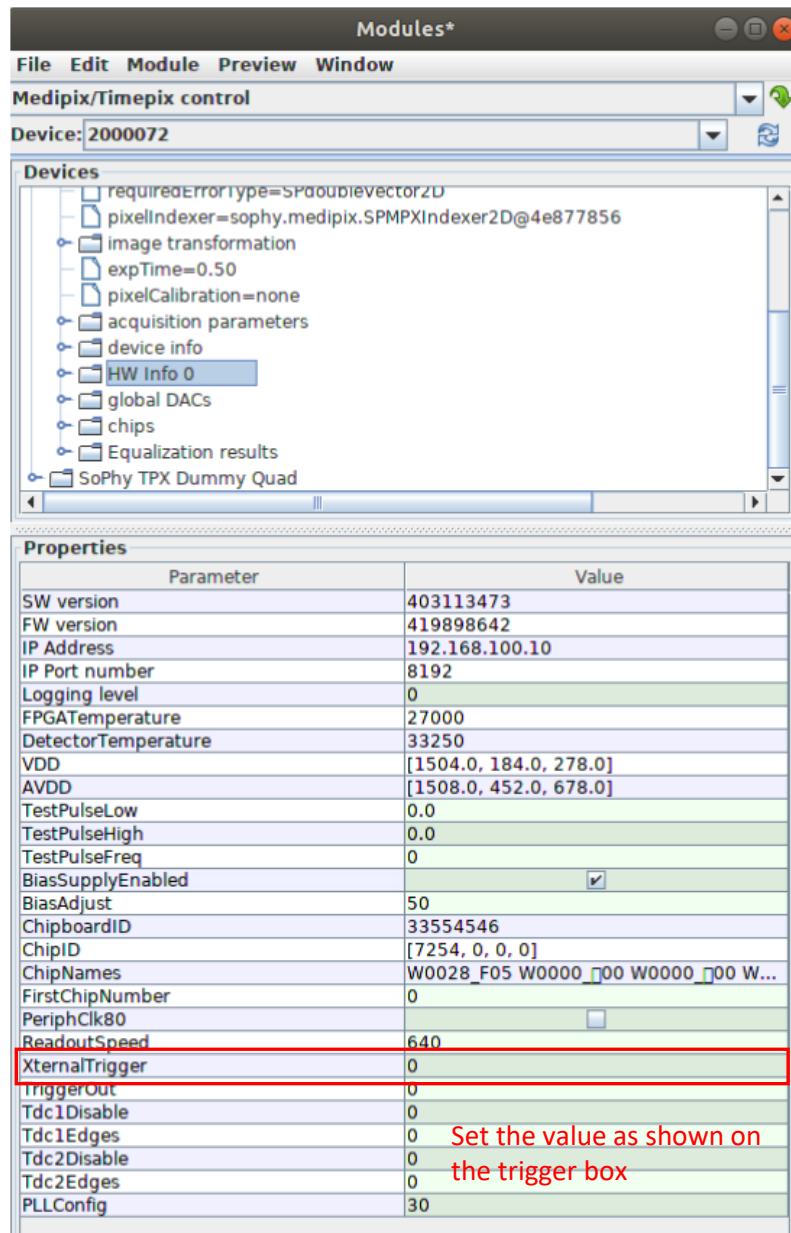

Figure 10. Setting to enable HDMI 1 for external triggering. Please check the value labeled on the trigger box.
Figure 9. Label on the trigger box indicates its channels as input or output. e.g. S/n: T024-IOIO. It means channel 1: input port, channel 2: output port, channel 3: input port, and channel 4: output port. When using external triggering with channel1, please set the value "1" for "XternalTrigger" in sophy (see Figure 10).
2. After the chip was connected and set up correctly, go to the detector settings tab (see Figure 10). Set the **XternalTrigger** to "1" instead of the default value "0" (Note that the specific value may vary depending on the trigger box, please check the label on the trigger box).